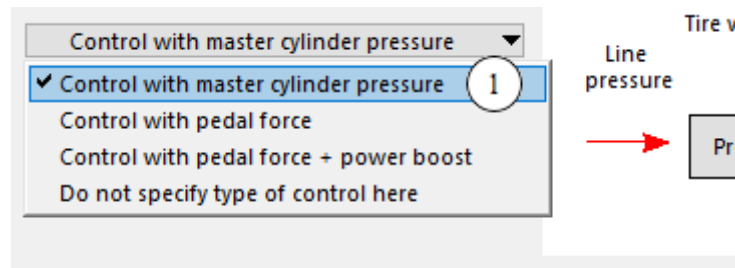

Figure 4. Options for setting the type of top-level braking control.
- ① Drop-down control for setting the type of top-level braking control (keyword = OPT\_BK\_PEDAL). The control gives four options (Figure 4).